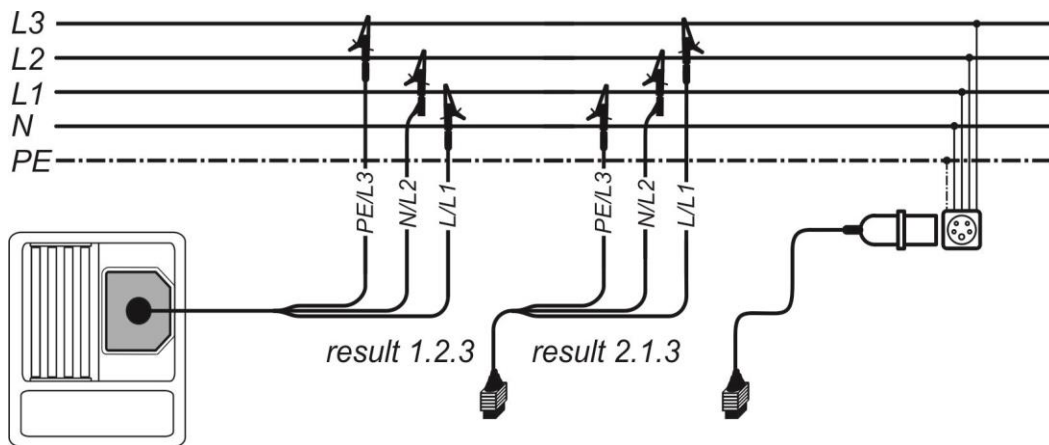
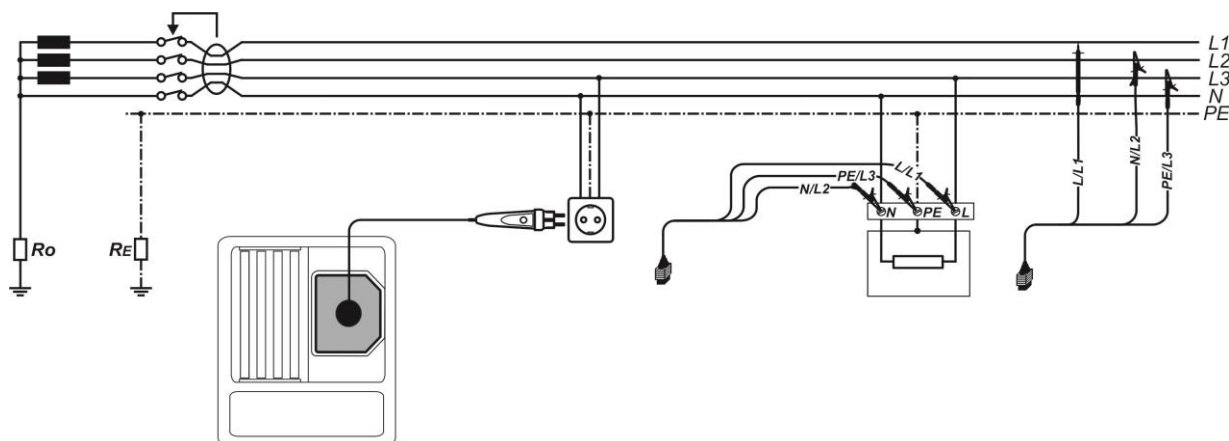

Figure 5.2: Connection of 3-wire test lead and optional adapter in three-phase system
Figure 5.3: Connection of plug test cable and 3-wire test lead in single-phase system
- ❑ **Connect** test leads to the item to be tested (see Figure 5.2 and Figure 5.3).